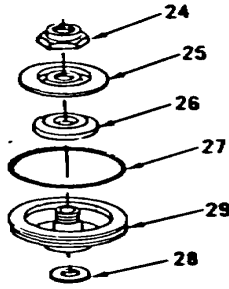

Figure 6-36.
- 11. Install new washer (28), new preformed packing (27), new rubber spring (26), seat (25) and nut (24) onto piston (29, Figure 6-36).